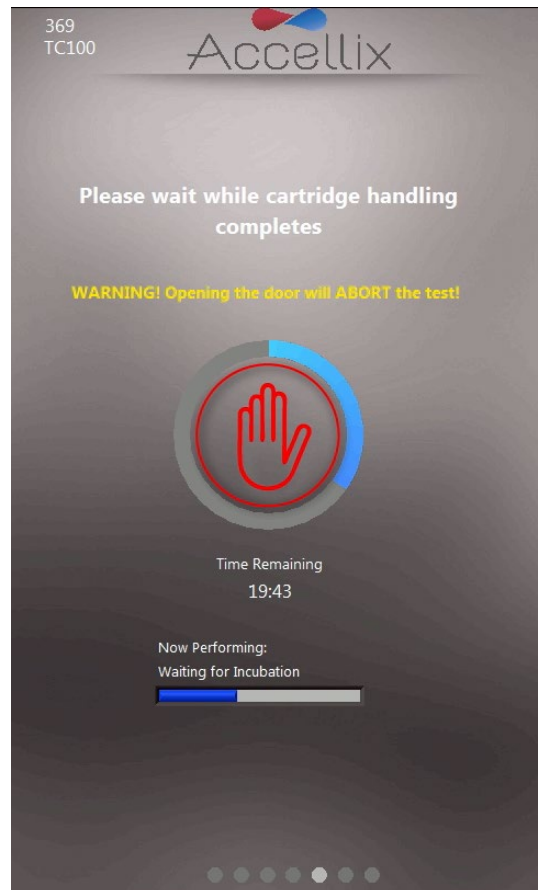

Figure 39: 'Progress Indicator and Time Remaining' screen
11. The **Progress screen** (Figure 39) displays a progress indicator and a **Time Remaining** countdown timer. The user can monitor the test progress and approximate time remaining.
Note: To stop an assay that is in progress, the user can tap **Stop**, the red hand at the center of the progress indicator (see Figure 39). Refer to Section **13.3 Termination of an Assay Run**.
The **Abort** icon may be used to terminate an assay run (Figure 39).